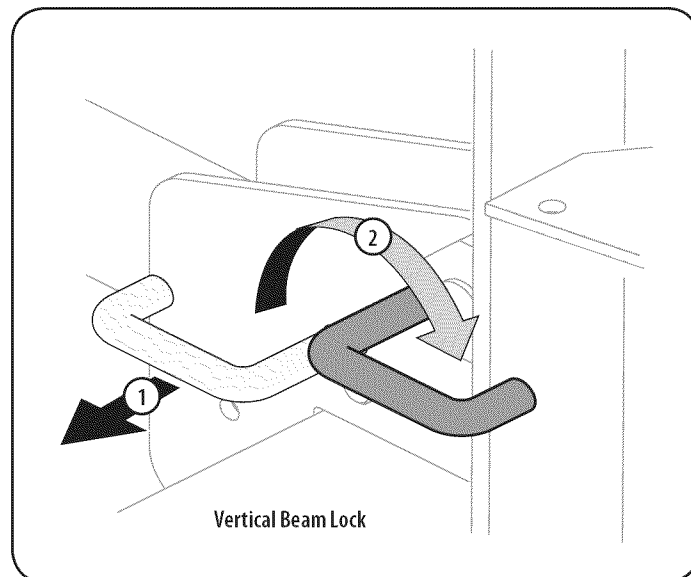

Figure 16
2. To lock the beam in the vertical position, pull out on the vertical beam lock and rotate it to secure the beam. See Figure 16.